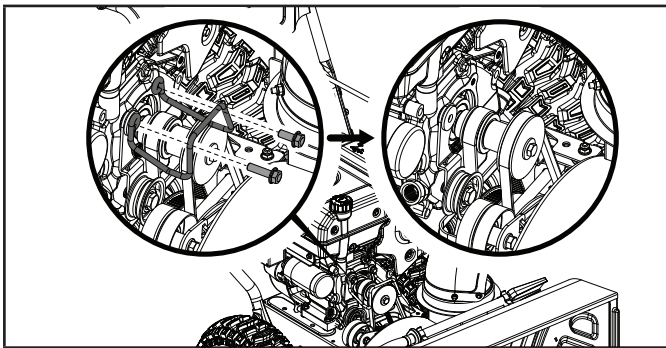

Figure 24D
3. Remove the 2 bolts (20 mm/30 mm) holding the belt guard (Fig. 24D). Note the spring is loose at this point.